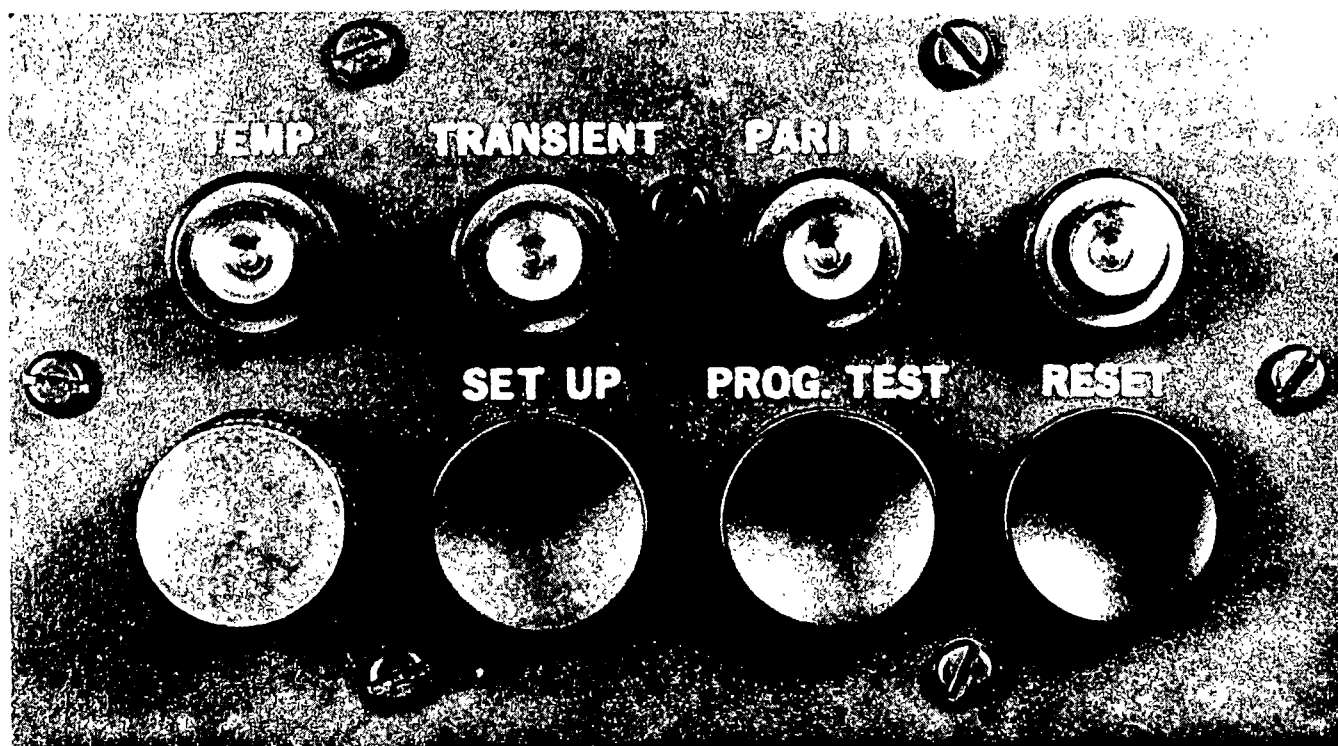

Figure 2-3. Trouble indicator panel.
b. *Trouble Indicator Panel.* The trouble indicator panel (fig 2-3), in the upper left corner of the control panel, has four trouble indicators, a night light, and three buttons—SET UP, PROG TEST, and RESET.